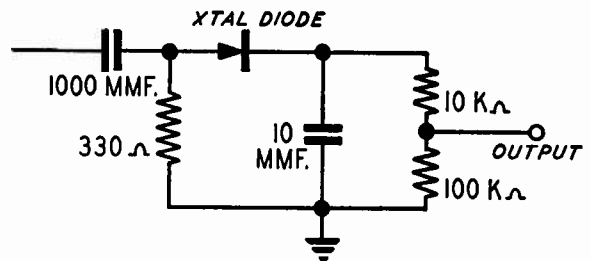

Fig. 4—Crystal Diode Detector
**40 M.C. I.F. Alignment**—Connect sweeper with very short leads through a 1K  $\mu\mu\text{f}$  disc ceramic capacitor to mixer grid test point on tuner. With short leads connect crystal diode detector (fig. 4) to grid of 2nd I.F. tube (pin #1 of V-5 and ground). Connect —3.0V to A.G.C. line (junction of C-304 & R-204). Connect oscilloscope to detector output. Adjust sweep output to give adequate deflection. Adjust 47.25 mc trap (L-201) so that slug is completely out of trap (adjust slug towards chassis side of coil).